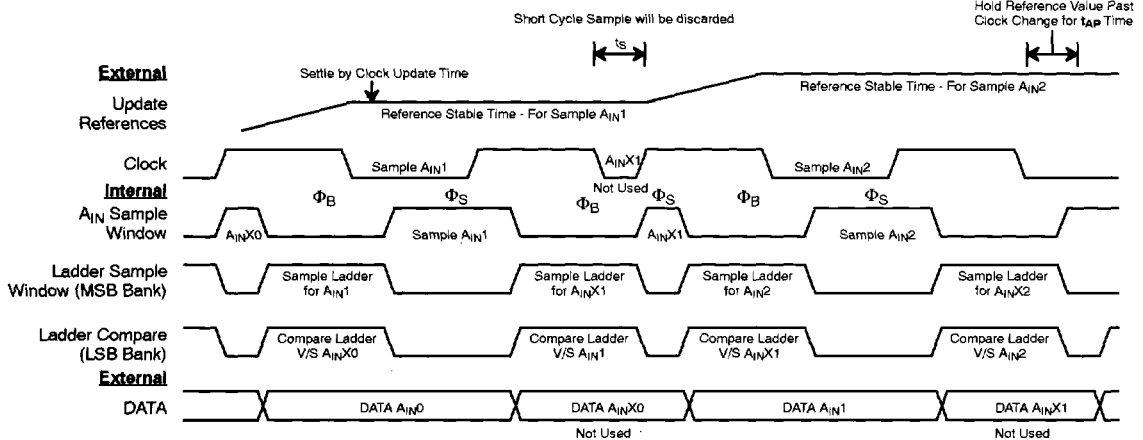
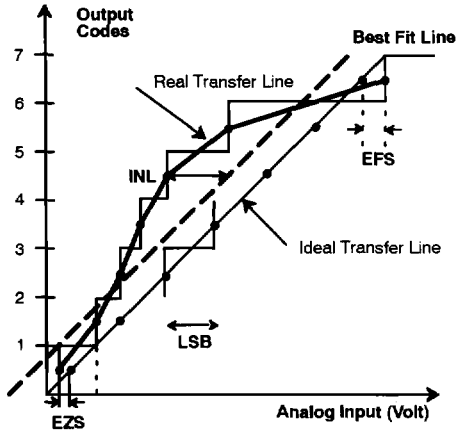

Figure 3. A_{IN} Sampling, Ladder Sampling & Conversion Timing
Figure 7. INL Error Calculation
- ² Tester measures code transition voltages by dithering the voltage of the analog input (V_{IN}). The difference between the measured code width and the ideal value ($V_{REF}/1024$) is the DNL error (see Figure 3). The INL error is the maximum distance (in LSBs) from the best fit line to any transition voltage (See Figure 7).
Figure 3 shows this relationship as a timing chart. A_{IN} sampling, ladder sampling and output data relationships are shown for the general case where the levels which drive the ladder need to change for each sampled A_{IN} time point. The ladder is referenced for both last A_{IN} sample and next A_{IN} sample at the same time. If the ladder's levels change by more than 1 LSB, one of the samples must be discarded. Also note that the clock low period for the discarded A_{IN} can be reduced to the minimum t_S time of 150 ns.
Figure 7 gives a visual definition of the INL error. The chart shows a 3-bit converter transfer curve with greatly exaggerated DNL errors to show the deviation of the real transfer curve from the ideal one.